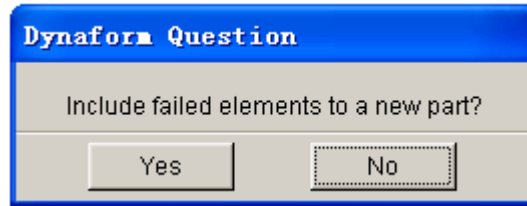

Figure 5.5.5 DYNAFORM Question dialog box
2. An eta/DYNAFORM QUESTION dialog box as illustrated in Figure 5.5.5 is displayed.